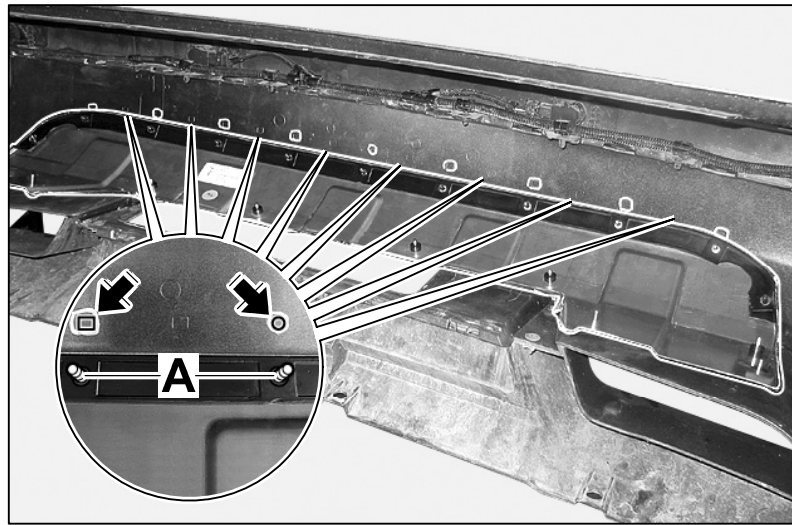

Figure 4
2.1.2 Mark the impressions arranged opposite the retaining pins ⇒ *Figure 4 -A-* (⇒ *Figure 4 -arrows-*) on the rear apron using a suitable pen/marker.